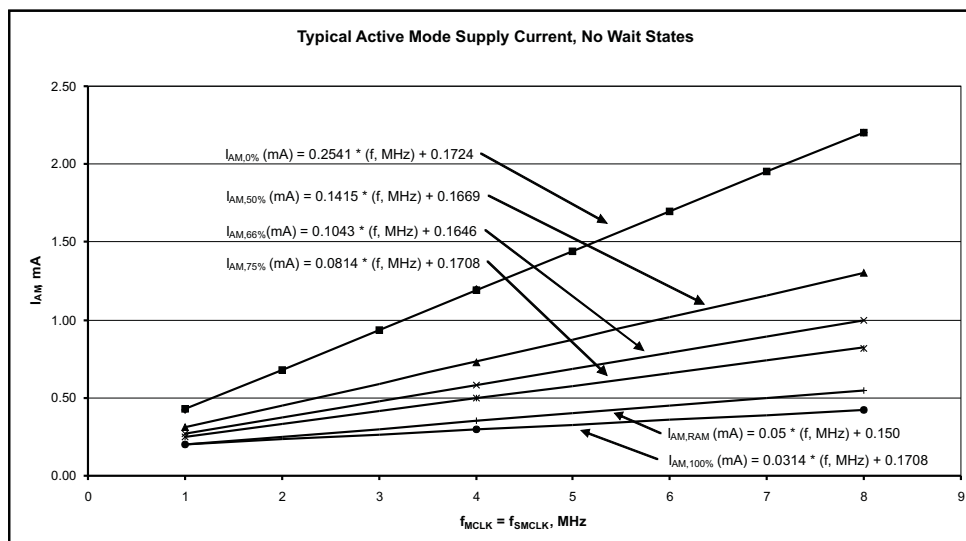

Figure 1. Typical Active Mode Supply Currents, No Wait States
- (8) See Figure 1 for typical curves. Each characteristic equation shown in the graph is computed using the least squares method for best linear fit using the typical data shown in Active Mode Supply Current Into V_{CC} Excluding External Current.